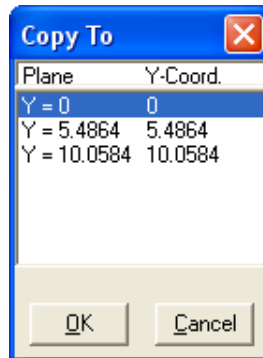

Figure 6-1 Change Plane dialog box
- From the **Options** menu, choose **Change Plane**. The dialog box of Figure 6-1 appears.